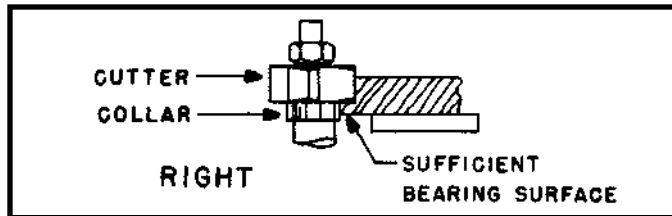
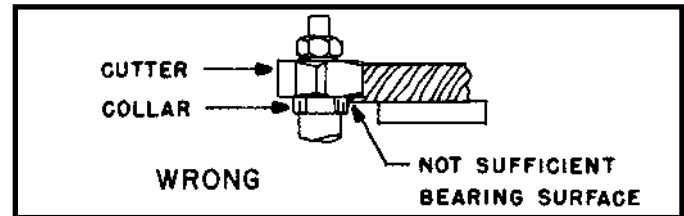

Fig. 63
Fig. 64
3. A portion of the edge of the work **MUST** remain untouched by the cutters in order for the collar to have sufficient bearing surface. The right method is shown in Fig. 63, while Fig. 64 illustrates the wrong method.